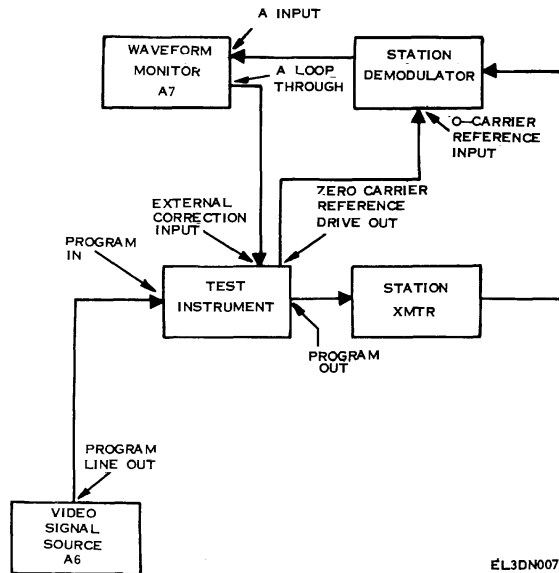

Figure 7. Demodulator control - equipment setup.
(2) Connect equipment as shown in figure 7.
(3) Set HORIZONTAL DISPLAY control on waveform monitor (A7) to 2 FIELD and MAGNIFIER to X25.
(4) Adjust waveform monitor controls to display 0-carrier reference pulse. If start of 0-carrier reference pulse is not 12 +1 microseconds from leading edge of horizontal sync pulse, perform b(1) below.
(5) Adjust gain of station demodulator (fig. 7) for 0-carrier reference pulse amplitude of 120 IRE (857 millivolts).